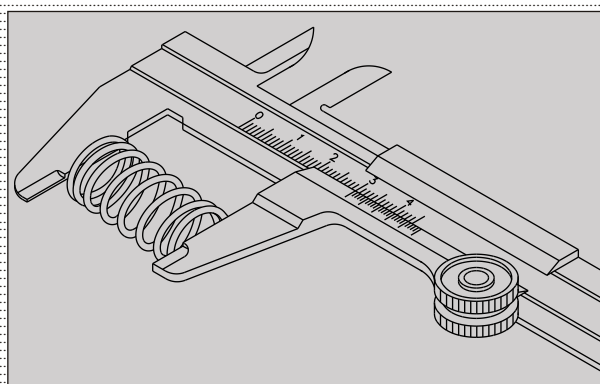

Fig. 3.145
- Measure free length of the inner and outer springs. (Fig. 3.145). If they are below service limit replace them with new ones